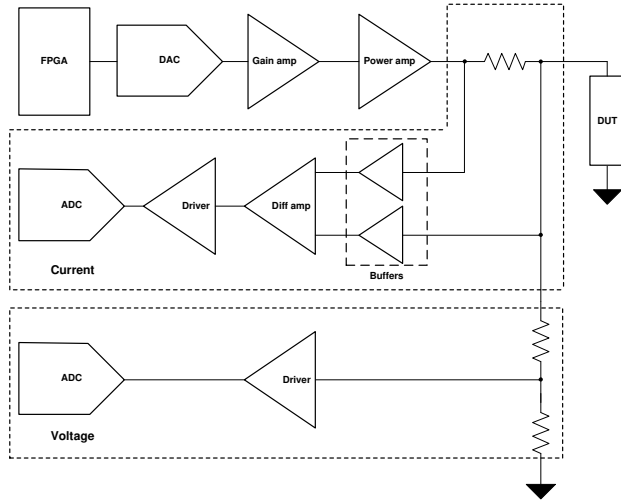

Figure 1. Typical Block Diagram for Semiconductor Testers
Voltage and current feedback measurements are necessary to make sure the correct conditions are forced on the device. Figure 1 shows that current measurement is implemented using an instrumentation amplifier (IA), and voltage measurement is implemented using a voltage divider, both feeding into separate analog-to-digital converters (ADCs) with a driver.